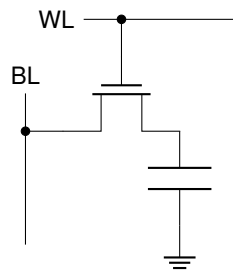

Figure 5.10: Schematic of a Dynamic RAM cell.
**DRAM** is the type of volatile memory used in computers due to its small size and low cost. A schematic of DRAM is given in Figure 5.10, with the modes of operation explained in Table 5.2. If the capacitor is not continuously refreshed with either a value of one or zero, it will discharge and memory will be lost.